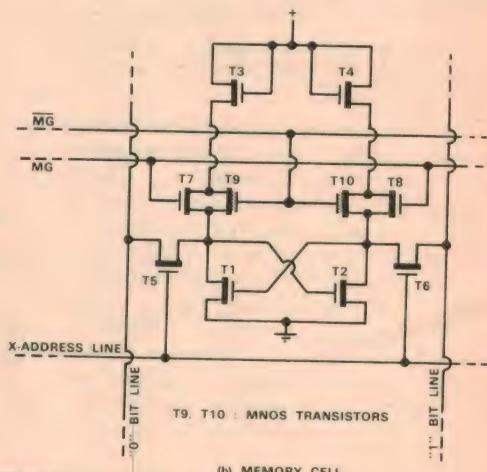

FIG. 4 : NON-VOLATILE MNOS RAM
The structure of an MNOS transistor is shown in Fig. 4(a). As you can see, it is not too different from a normal MOS transistor. The main difference is that there are two dielectric layers between the semiconductor channel and the insulated metal gate (G). Only one layer is silicon dioxide, and this is very thin—approximately 20 angstroms (2 nanometres). Above this is a layer of silicon nitride which is somewhat thicker, around 500 angstroms (50nm).
Fig. 4(b) shows how a pair of MNOS transistors are incorporated into what is basically a standard MOS RAM cell. If you compare the diagram with that of Fig. 1(b), you will see that it is basically the same cell with four additional transistors. T7 and T8 are two normal MOS transistors, while T9 and T10 are two MNOS devices.